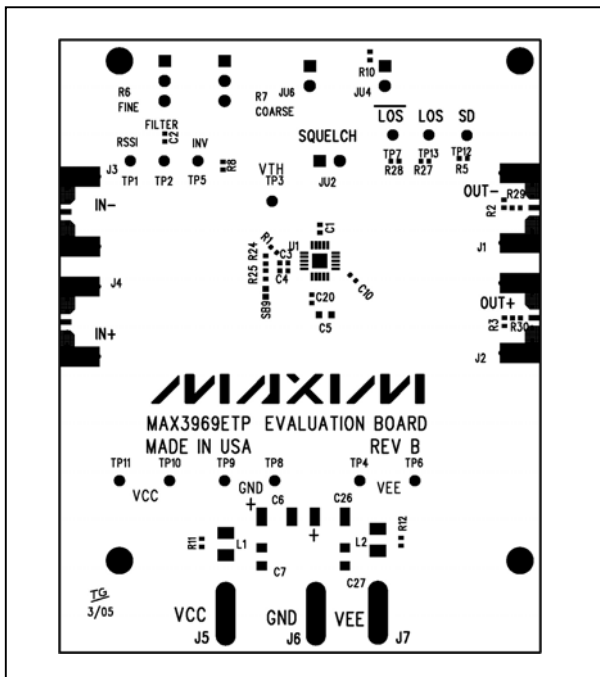

Figure 3. MAX3969 EV Kit Component Placement Guide—Component Side
- Rev 1; 3/05: Changed PCB in BOM to Rev B (page 1); updated Figures 3 and 5 (page 5).